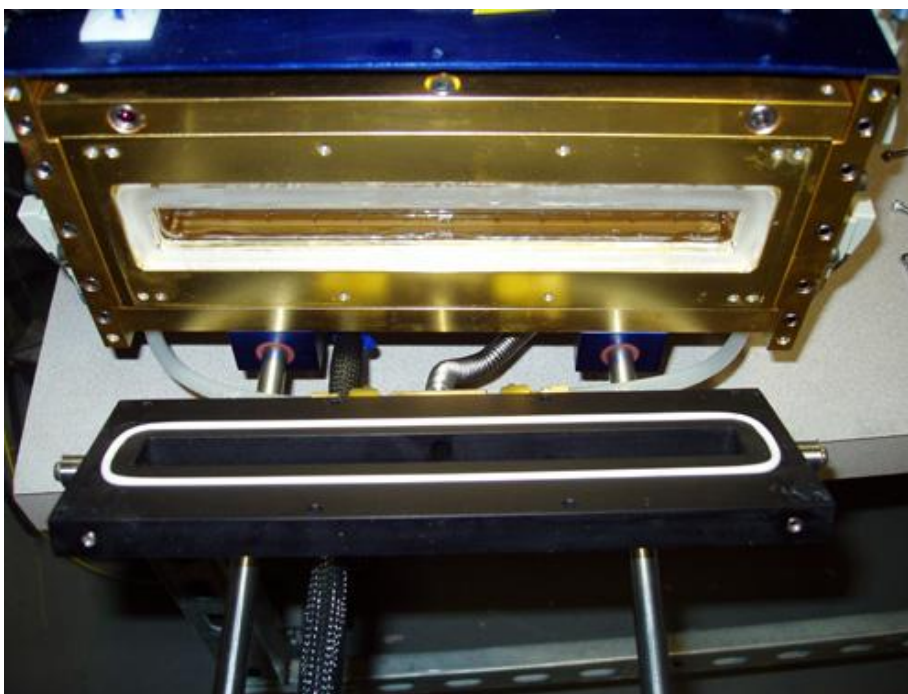

Figure 5-4. *Removing the Isolation Tube*
1. Carefully remove the eight screws that hold the front flange in place. See Figure 5-4. Put the screws in a safe place. Lay the flange forward on the rails for the oven door. Be careful not to damage the purge exhaust line.
7. Put on Latex gloves and, from the front of the system, gently pull forward on the quartz isolation tube. It may be necessary to gently move the tube from side to-side or up and down while pulling the tube forward. See Figure 5-4.
10. When you are ready to re-install the isolation tube, install the inner flange O-ring. See Figure 5-4.
12. Install the outer flange O-ring into the groove of the flange, as shown in Figure 5-4.